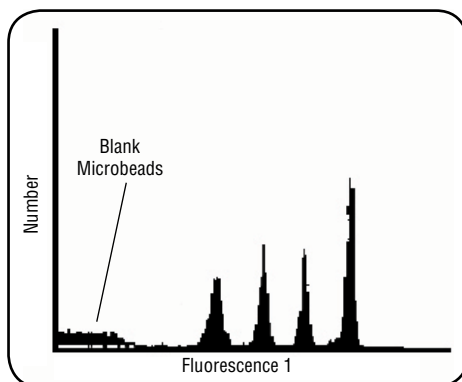

Figure 2
6. Verify that the Certified Blank appears near the origin of the histogram. (Figure 2)
Figures 2 and 3 depict the APC fluorescence histogram of the Quantum APC MESF microspheres and the calibration curve from which the MESF values can be obtained, respectively.